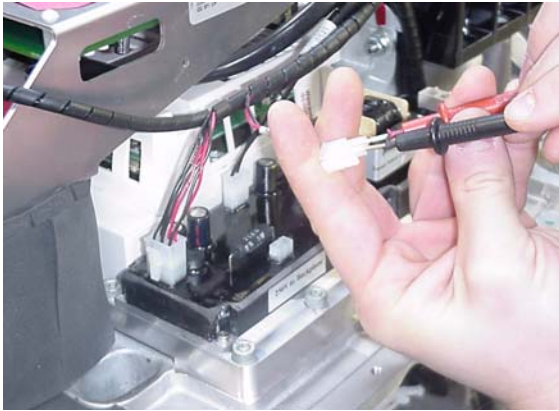

Figure 4-47 DC-DC Converter 250V Load Resistance Measurement
5. Place the meter probes in the 250VDC cable connector, as shown in Figure 4-47. Record the resistance measurement. Reverse the meter probes. In both cases, the meter should show a resistance $> 500\Omega$.